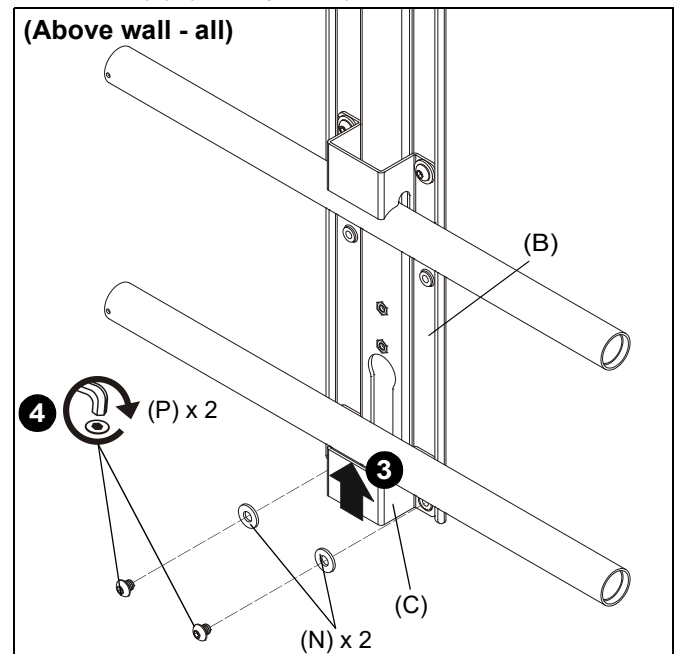

Figure 14
3. Slide second shelf bracket (C) underneath lower rail on wall mount, lining up holes on shelf bracket (C) to holes on main bracket (B). (See Figure 14)
4. Use two 1/4-20 x 1/4" button head cap screws (P) and two large washers (N) to secure shelf bracket (C) to main bracket (B). (See Figure 14)